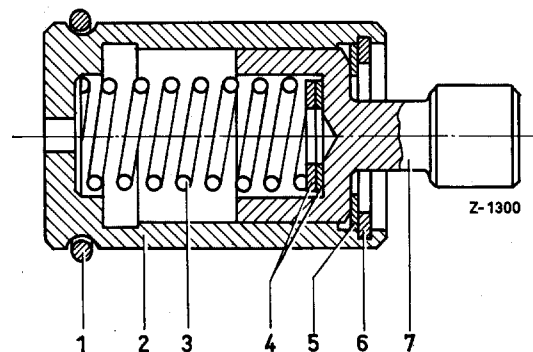

Figure 07-1/4
If the adjustment travel value is too high or too low, the position of the stop pin (7) in the spring capsule housing (2) should be varied by placing washers (5) between stop pin shoulder and lock ring (6) (see Figure 07-1/4).
**Caution!** This variation also varies the pre-tension in the spring capsule. This should be compensated for by placing washers (4) between additional spring (3) and stop pin bottom in order to obtain the specified pre-tension of 50-90 grams.